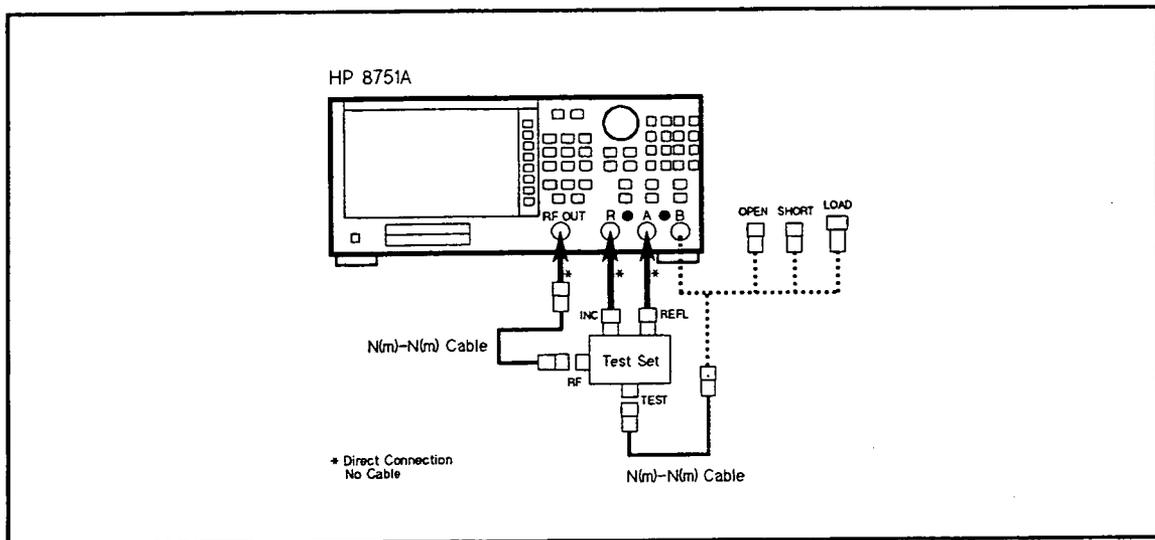

Figure 2-15. Input B Impedance Test Setup
- a. Connect the equipment as shown in Figure 2-15.